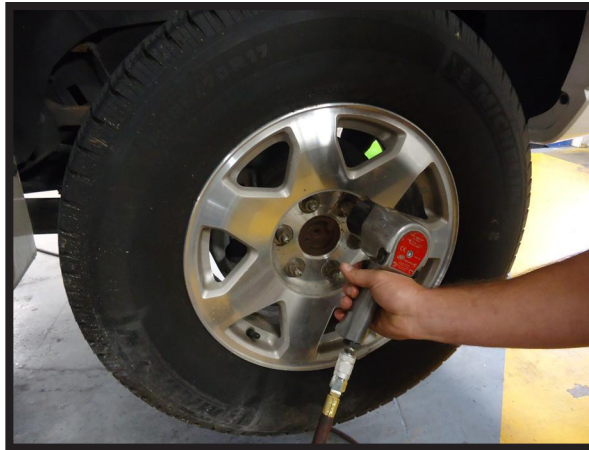

FIGURE 46
3. REMOVE THE REAR WHEELS. (FIGURE 46)